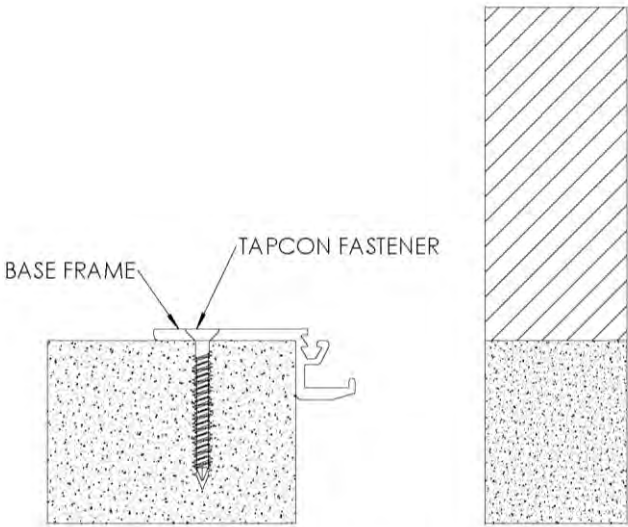

FIGURE 1
1. Position base member frame in expansion joint per shop drawings. Using the frame as a template, mark and drill 3/16" holes in the concrete. Install base member frame with supplied Tapcon fasteners, making sure not to over tighten. **See Figure 1**